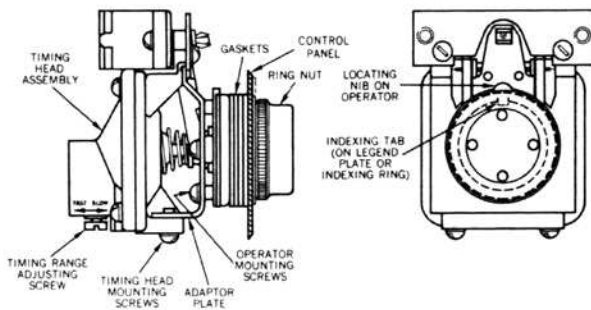

Figure 4
- A. Oil may have too heavy viscosity due to a heavy weight oil or cold oil. The engine of the vehicle should be started and run to heat the oil to above 70° or set the time delay switch to hold the pump engaged longer than the standard 25 seconds factory setting. See time delay switch adjustment (Figure 4), page 20.